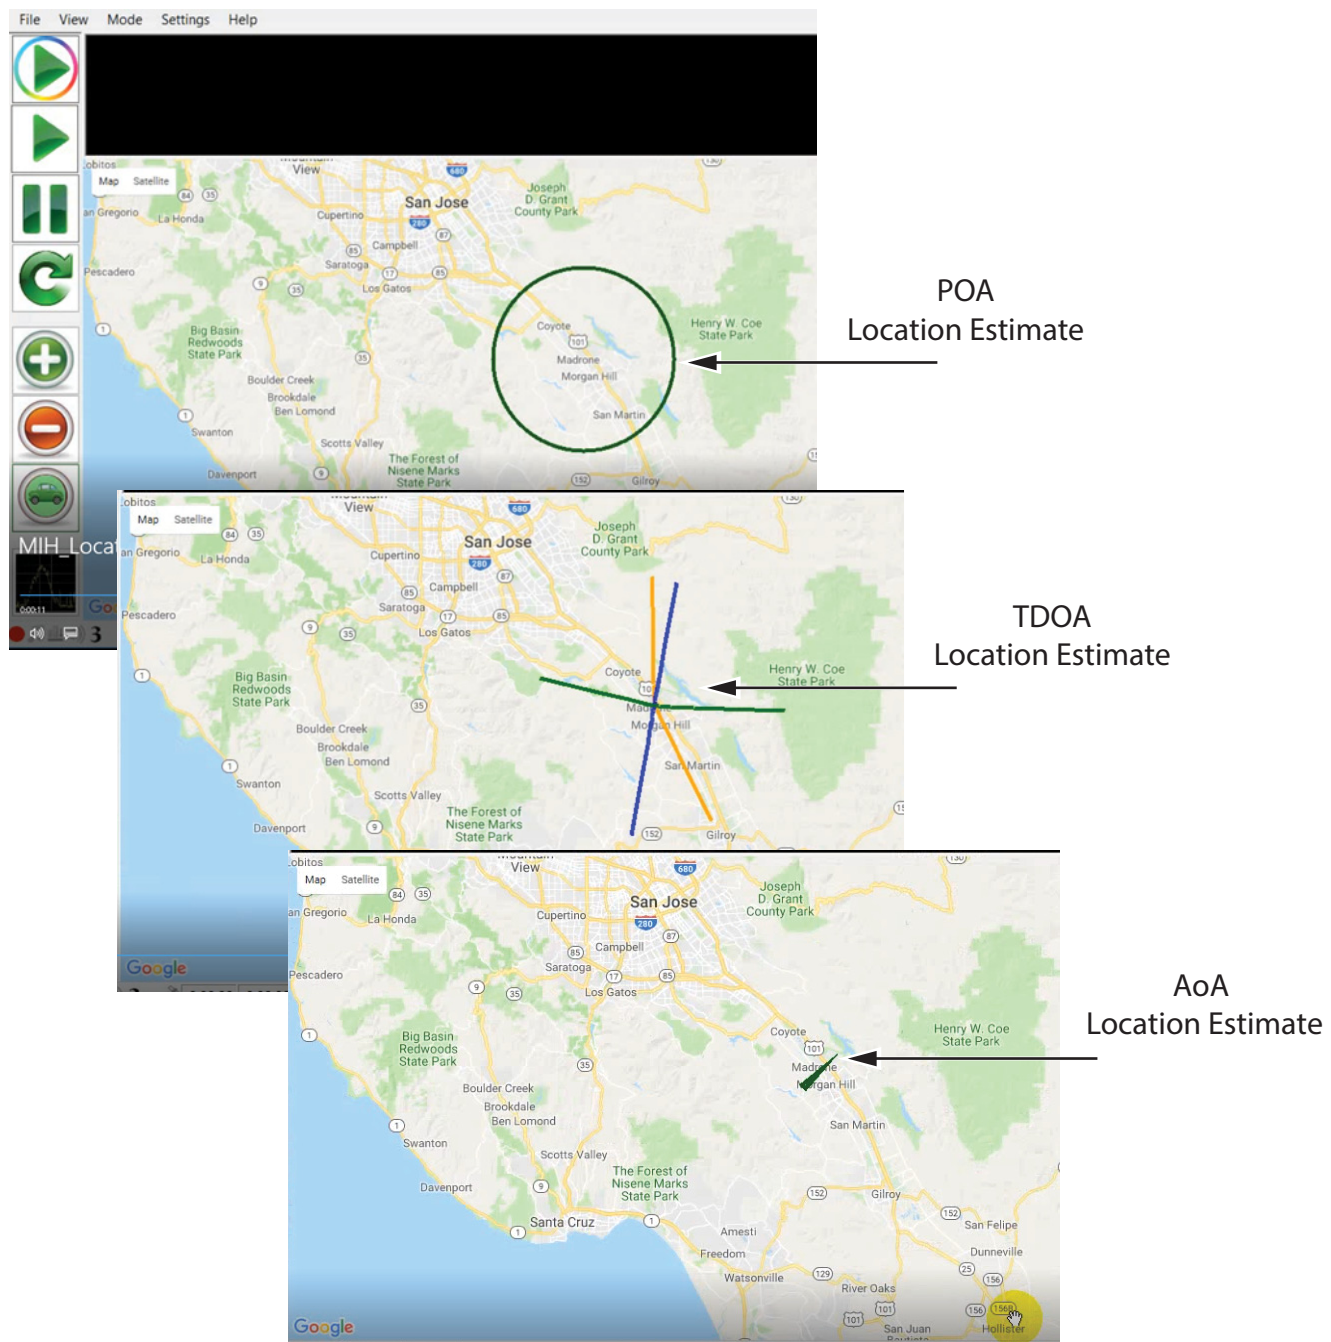

**Figure 4-18.** View Imported .loc files
3. Import the TDOA, POA, and AoA file to view on the MIH screen as shown in Figure 4-18.